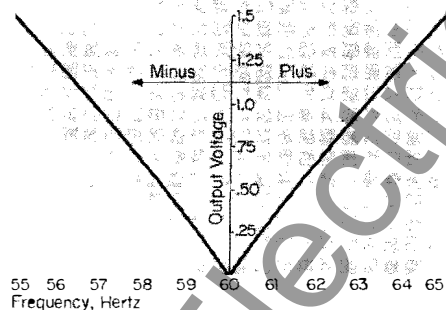

Figure 1: Linearity of Output with Frequency Change
2. A nearly linear scale distribution. (See Figure 1).